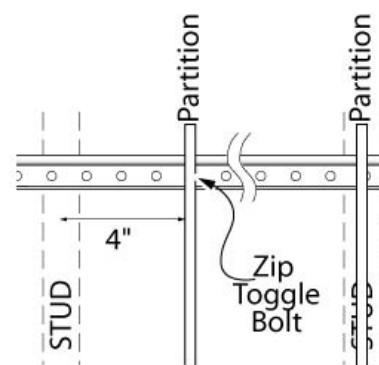

Fig. 4
4. Fasten the rail to the wall with a Zip Toggle Bolt wherever a partition will be hung that is more than 4" to the left or right from the center of a stud. (See Fig. 4.)